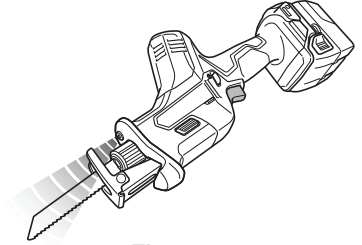

Fig. 28
6. LED light warning signals (Fig. 28)